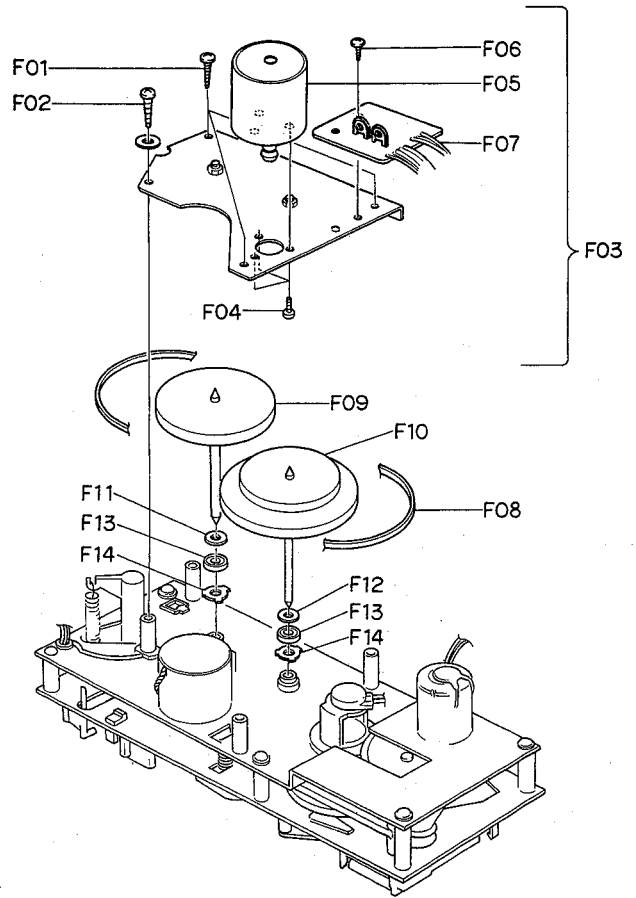

Fig. 3.6
Refer to Fig. 3.6.
- (1) Refer to Fig. 3.6. Remove Flywheel Assemblies referring to item 3.16.
- (2) Remove F01 and F02, then disassemble F03 (Sub Mechanism Chassis Ass'y).